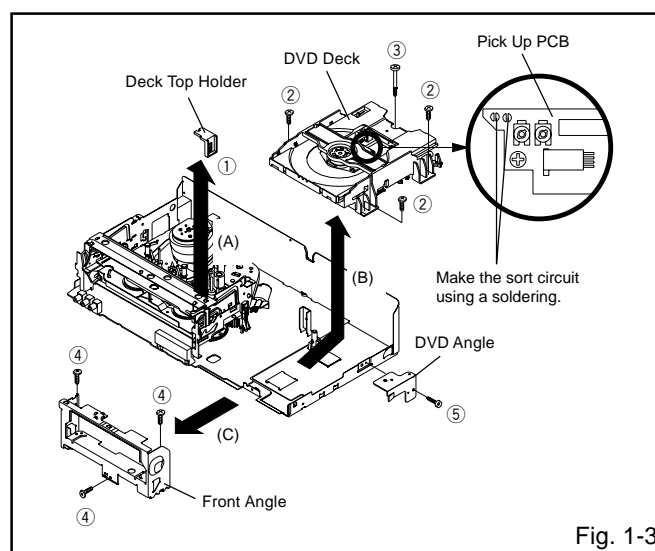

Fig. 1-3
1-3: DVD DECK (Refer to Fig. 1-3)
1. Make the short circuit on the position as shown Fig. 1-3 using a soldering. If you remove the DVD Deck with no soldering, the Laser may be damaged.
2. Unlock the support ① and remove the Deck Top Holder in the direction of arrow (A).
3. Remove the 3 screws ②.
4. Remove the screw ③.
6. Remove the DVD Deck in the direction of arrow (B).
7. Remove the 3 screws ④.
8. Remove the Front Angle in the direction of arrow (C).
9. Remove the screw ⑤.